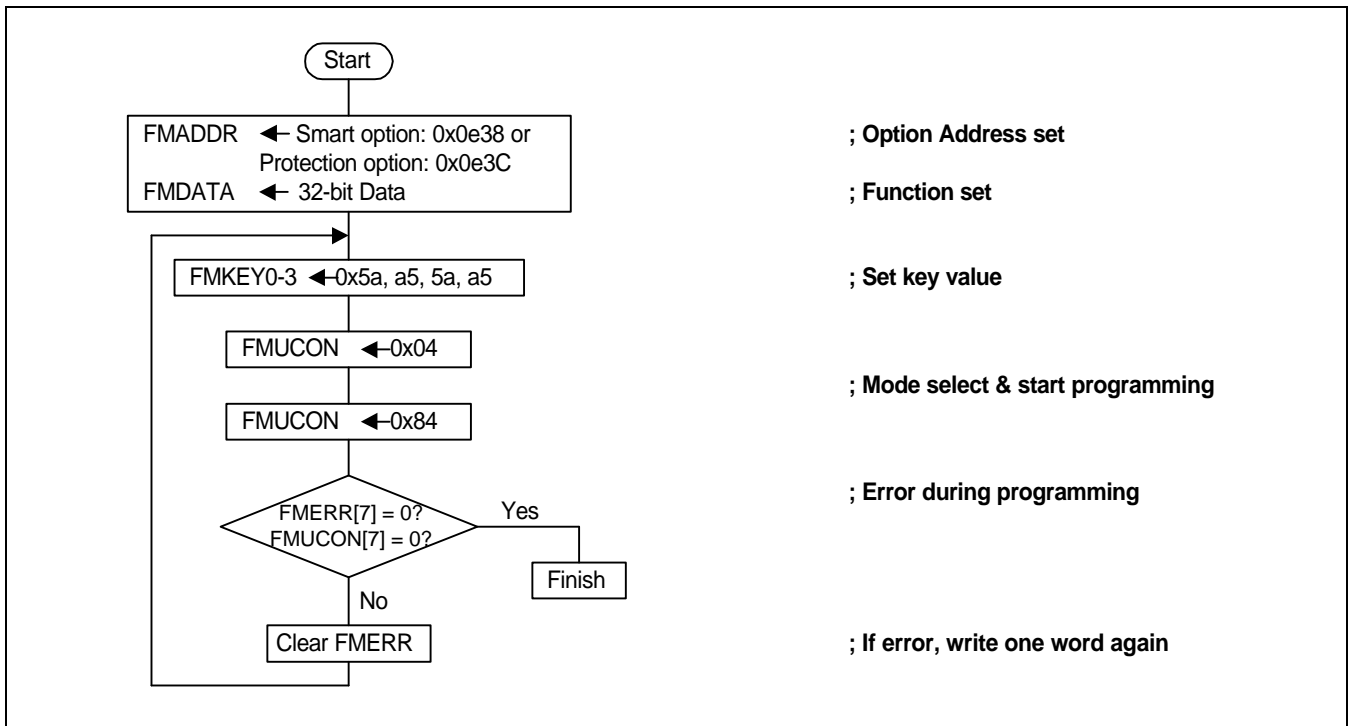
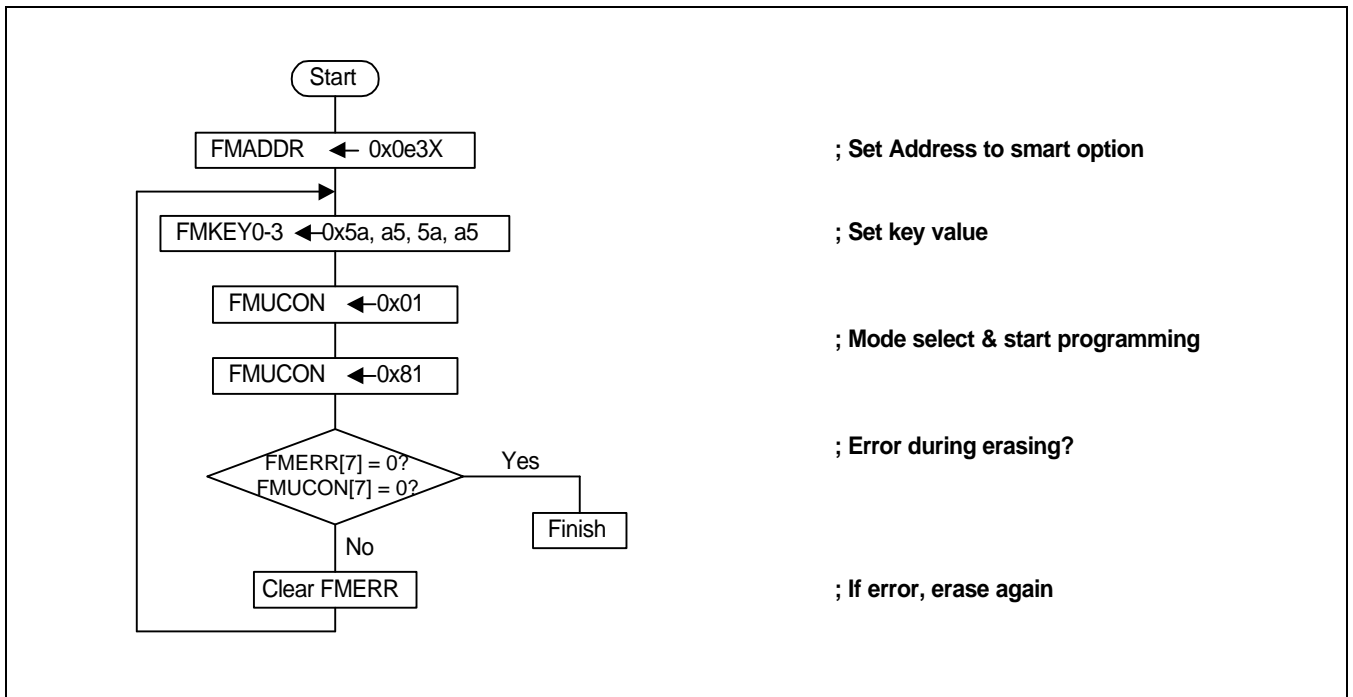

Figure 10-3. Option Sector Program Flowchart in a User Program mode
Figure 10-5. Option Sector Erase Flowchart
There are many users who do not want their data to be read by others. Read Protection can give the solution for this by preventing the flash data from being read serially in the tool program mode. This Read Protection is not available in the user program mode. When this function is enabled, the reading or and verification of flash data in the tool program mode will result in all zero read-out. Read Protection can be set and released in user program mode on the condition of HDP(Hardware Protection) released as follows. The user should write 0x0e3c into the address and the proper data 0x00ffffff(refer to the above Protection Bit table) into the data register (FMDATA), respectively. As a next step, the user should write the values (0x5a, 0xa5, 0x5a, 0xa5 in this order) into key registers 0/1/2/3(FMKEY0-3). Finally, set FMUCON.2(Option Sector Program Enable bit) then set FMUCON.7(Operation Start bit). Pls refer to figure 10-3(Option Sector Program Flowchart). Meanwhile, in order to release Read Protection, The user has to erase Option Sector as similar as Read Protection process. Pls refer to Figure 10-5 (Option Sector Erase Flowchart), which results in initializing all Protection bits and smart option bits.
Hardware Protection can be set in user program mode as follows. The user should write 0x0e3c into the address and the proper data 0xff00ffff(refer to the above Protection Bit table) into the data register (FMDATA), respectively. As a next step, the user should write the values (0x5a, 0xa5, 0x5a, 0xa5 in this order) into key registers 0/1/2/3(FMKEY0-3). Finally, set FMUCON.2(Option Sector Program Enable bit) then set FMUCON.7(Operation Start bit). Pls refer to figure 10-3(Option Sector Program Flowchart).
LD Protection can be set and released in user program mode on the condition of HDP(Hardware Protection) released as follows. The user should write 0x0e3c into the address and the proper data 0xffff00ff(refer to the above Protection Bit table) into the data register (FMDATA), respectively. As a next step, the user should write the values (0x5a, 0xa5, 0x5a, 0xa5 in this order) into key registers 0/1/2/3(FMKEY0-3). Finally, set FMUCON.2(Option Sector Program Enable bit) then set FMUCON.7(Operation Start bit). Pls refer to figure 10-3(Option Sector Program Flowchart). Meanwhile, in order to release LD Protection, The user has to erase Option Sector as similar as Read Protection process. Pls refer to Figure 10-5 (Option Sector Erase Flowchart), which results in initializing all Protection bits and smart option bits.
- Configure the smart option bits in advance (refer to Figure 10-3),